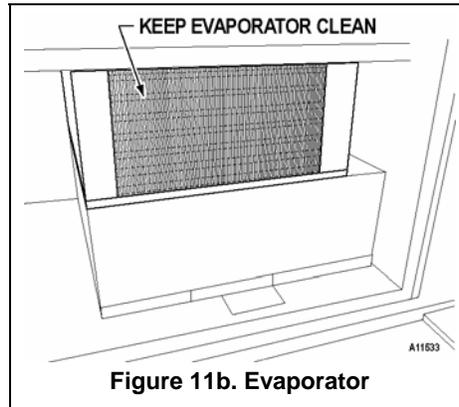

Figure 11b. Evaporator
- Is the evaporator fan working? To check if the fan is running take a small piece of paper in front of the evaporator coil and see if the evaporator fan will draw the paper. See Figure 11b on page 30.